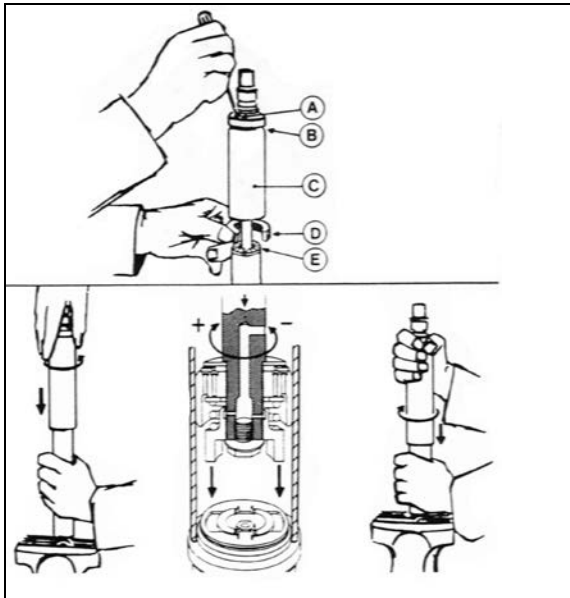

FIGURE 26: DAMPER
To adjust opening and closing cycle speed on damper (Figure 26):
2. Fully close the damper while turning the dust cap or piston rod slowly CCW until it is felt that the cams of the adjusting nut engage in the recesses of the foot valve assembly (Figure 26).
*In Figure 26, if there is an indentation (B) in the dust cap (C) and the cover shows two holes (A), the damper is fitted with a bump rubber (D). If so, fully extend the damper and insert a round bar or screwdriver through the holes. Push the bump rubber down and remove. Remove the split plastic collar (E) (if fitted) from the piston rod.*
Where a bump rubber was installed, refit same inside the dust cap and by fully closing the damper, the rubber will seat again at top of the dust cap. Refit the split plastic collar E (Figure 26).